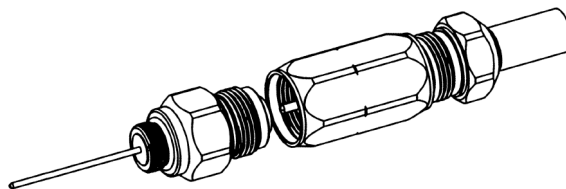

Fig. 6
5. Bring the connector **MAIN NUT** and cable to the connector **MAIN BODY** as shown in Figure 6. Fully hand-tighten **MAIN NUT** to **MAIN BODY** while keeping force on the cable towards the **MAIN BODY**.